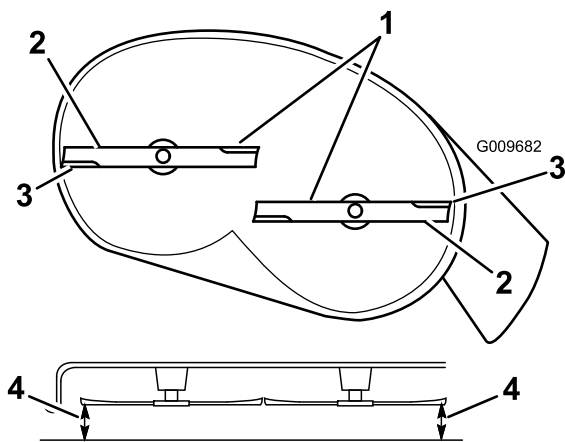

Figure 50
4. Carefully rotate the blade(s) so that they are all side to side (Figure 49 or Figure 50).
5. Measure between the outside cutting edges and the flat surface (Figure 50). If both measurements are not within 3/16 inch (5 mm), an adjustment is required; continue with this procedure.